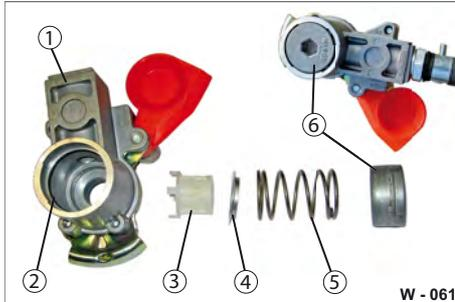

Fig. 59 Coupling head disassembled
- ▶ Press in the cover (Fig. 59/6) with a hexagon socket up to the limit position in the housing (Fig. 59/1). Turn the hexagon socket key by 90°. The cover opens.
- ▶ Remove the spring (Fig. 59/5), the metal ring (Fig. 59/4) and the filter (Fig. 59/3) from the housing.
- ▶ Check if the seal (Fig. 59/2) is present or damaged. Replace damaged seals.